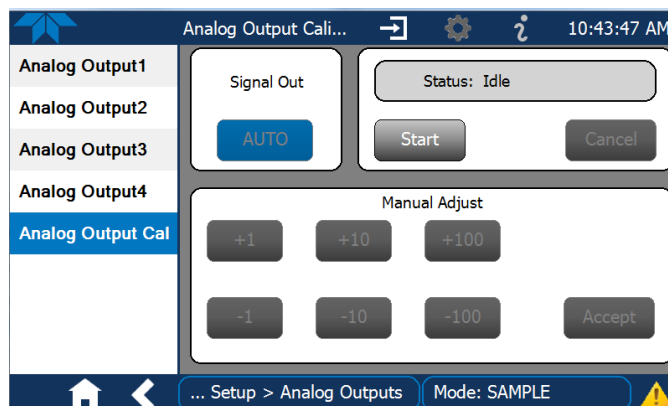

Figure 2-58. Analog Outputs Group Calibration Screen
- AUTO for group calibration (Figure 2-58) of the analog outputs (cannot be selected when Current is selected for the Range)